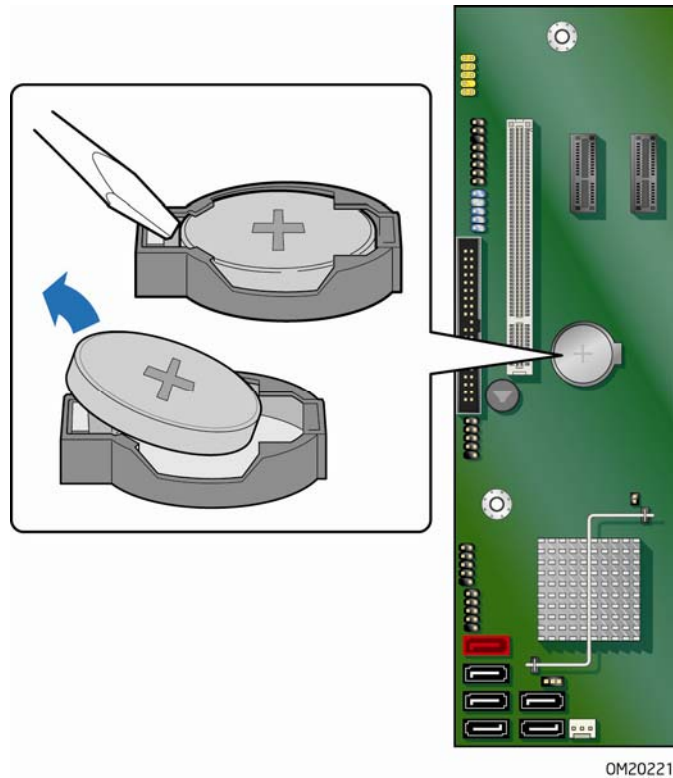

Figure 29. Removing the Battery
When the voltage drops below a certain level, the BIOS Setup program settings stored in CMOS RAM (for example, the date and time) might not be accurate. Replace the battery with an equivalent one. Figure 29 on page 62 shows the location of the battery.
4. Locate the battery on the board (see Figure 29).